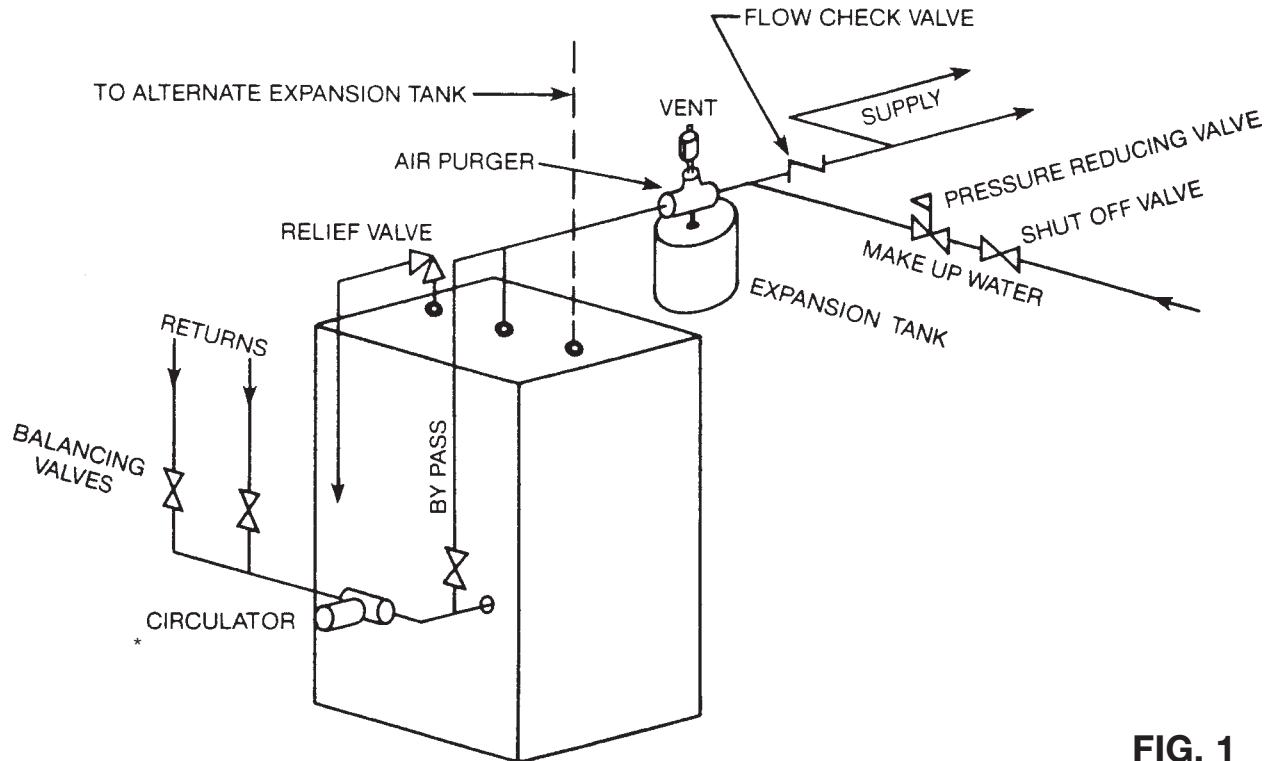

FIG. 1
- 2) For location of piping refer to the appropriate installation drawings in Figures 1, 2, 3, 4 and 5. The burner and aquastat are wired at the factory. The circulator is shipped loose. Wire the circulator as shown on the wiring diagrams in this manual. The circulator may be located on the return line as shown in the diagram or in the supply piping if desired. For piping and wiring of other system components see the manufacturer's installation manuals.